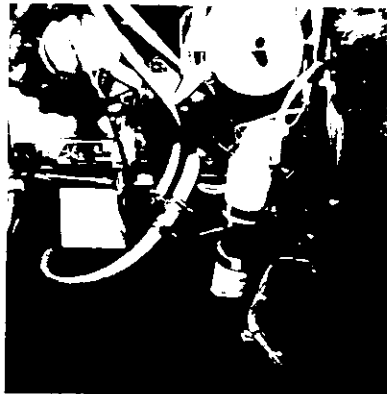

Figure L.36 Restrictor
- (1) Loosen the hoses bands at both ends of the restrictor shown in Figure L.36. Remove the restrictor. When attaching the restrictor, connect the hoses to both ends, and fasten them with the hose bands.
- (2) Check and adjust the pressure and vacuum level. (See K0190).